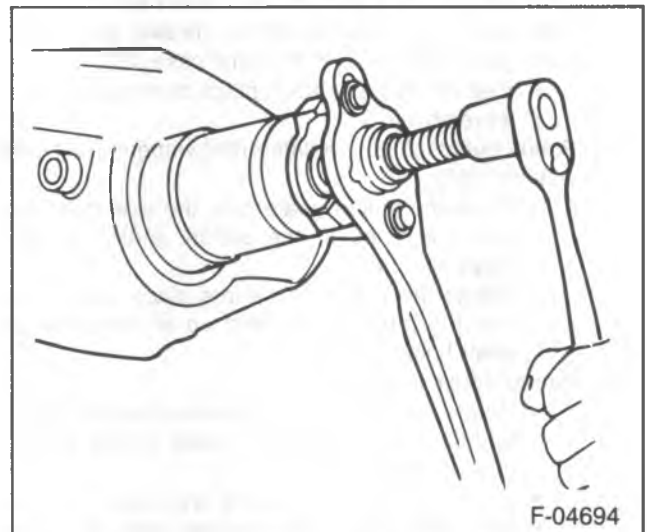

Figure 16—Installing the Pinion Flange
6. The pinion flange (8) to the pinion by tapping it with a rawhide hammer until a few threads show through the pinion flange.
7. The pinion washer (7) and a new nut (6) while holding the pinion flange with J 8614-01 (figure 16).